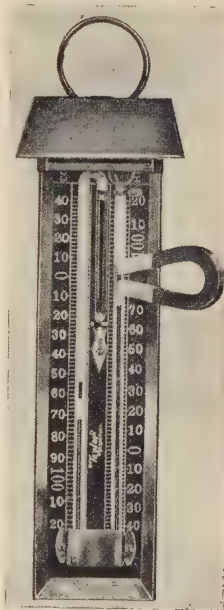

FIG. 30. — A Sixe's maximum and minimum thermometer.
28. Maximum and minimum thermometers. Sometimes it is important to have records of how low or how high the temperature goes during a certain period of time, without watching the thermometer. A type of self-recording thermometer, Fig 30, known as the "Sixe's," after the man who designed it, is capable of giving the maximum and minimum temperatures. This thermometer is a U-shaped tube, usually having a cylinder at one end and a bulb at the other. The lower half of the U tube holds a column of mercury. Creosote fills the cylinder and half of the bulb; the remaining space in the bulb is filled with air. In the tube, at either